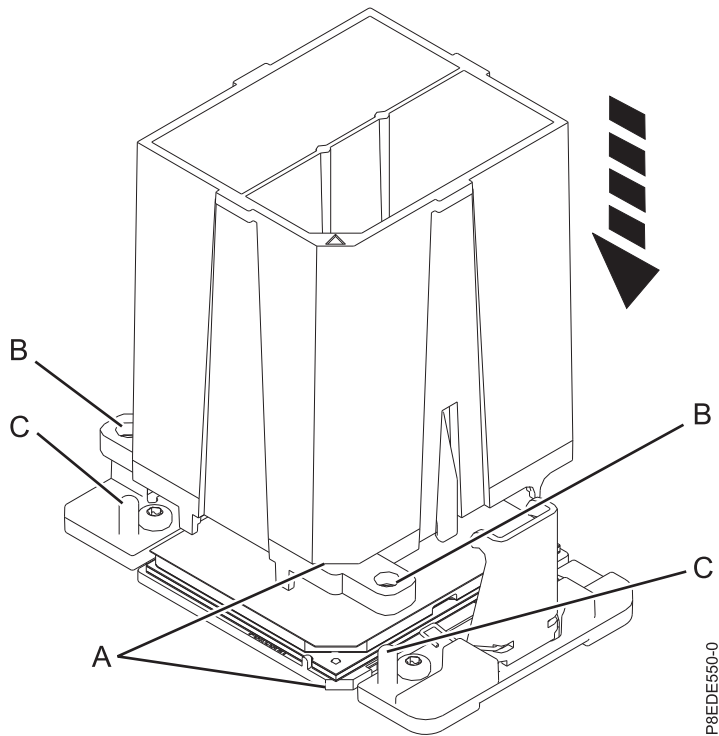

Figure 60. Lowering the removal tool onto the system processor module
- a. Using the supplied removal tool (part number 00E8483), align the beveled corner **(A)** of the tool over the beveled corner of the system processor module as shown in Figure 60 on page 65.